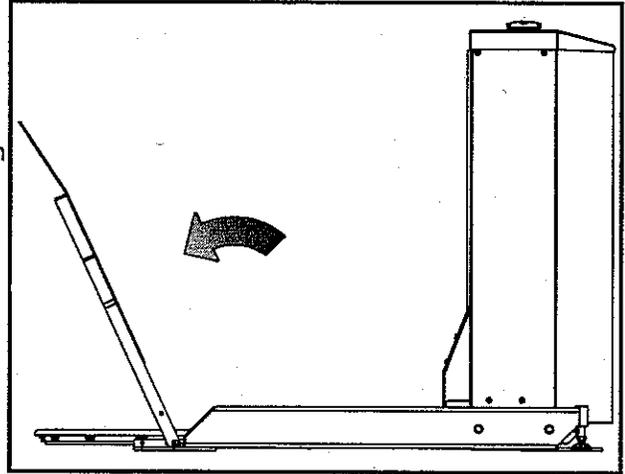
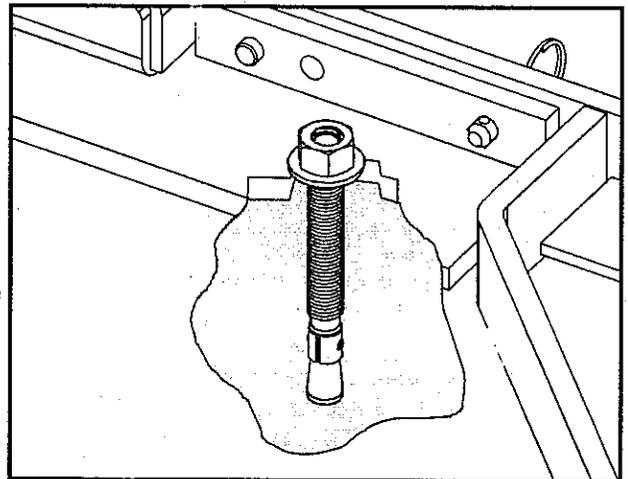

Figure 10 – Ramp Operation
Figure 11 – Anchor Bolt Detail
11. Next, rotate the ramp to its operating position. As shown in Figure 10, remove the spring detent pins that are securing the ramp in the stored position. Carefully grab the end of the ramp and rotate the ramp to the operating position. The ramp is heavy. Use **CAUTION** not to pinch fingers or toes under the ramp. Reinstall the detent pins to secure the ramp in the operating position.
13. The EZ Off Lifter's base frame has three (3) 5/8 in. holes for lagging the unit securely to the floor. Using the three (3) holes as a template, drill a 1/2 in. diameter hole, 3 in. minimum depth at each location. The floor surface should be level and the drilled holes perpendicular to the floor. Depending on the floor conditions, the bottom of the rear anchor plate should be approximately 0.13 in. (3.3 mm) off the floor. This gap should be shimmed to prevent distorting the rear frame.
14. As detailed in Figure 11, prepare the 1/2 in. diameter x 4 in. long anchor bolts (*USE type SUP-R-STUD #26-12400 or equivalent*) by assembling the washer and nut on the anchor bolt. The nut should be screwed onto the anchor bolt approximately 1/2 the nut height. Drive the assembled anchor through the mounting holes into the concrete until the washer is flush with the top of the anchor plate. Expand the anchor shield by tightening the nut three (3) to five (5) turns. Repeat for the remaining anchors.
2. Position the ramp in the stored position. As shown in Figure 10, remove the spring detent pins that are securing the ramp in the operating position. Carefully grab the end of the ramp and rotate the ramp to the stored position. The ramp is heavy. Use CAUTION not to pinch fingers or toes under the ramp. Reinstall the detent pins to secure the ramp in the stored position.